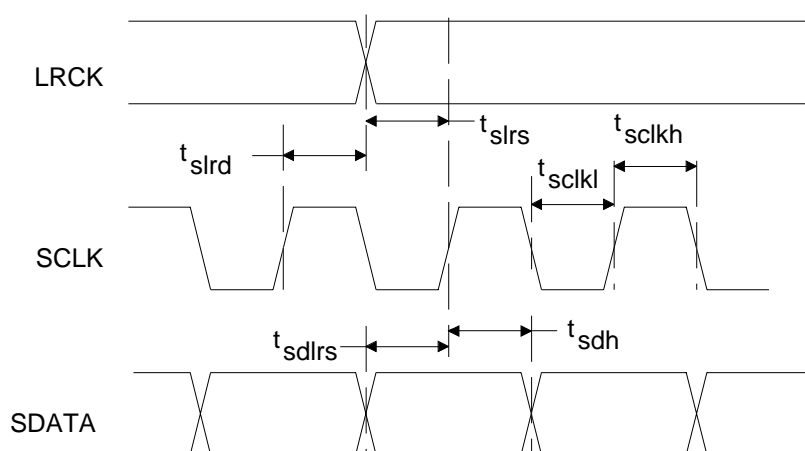

Figure 1. Serial Audio Input Timing
3. Valid with the recommended capacitor values on FILT+ and CMOUT as shown in Figure 1. Increasing the capacitance will also increase the PSRR.